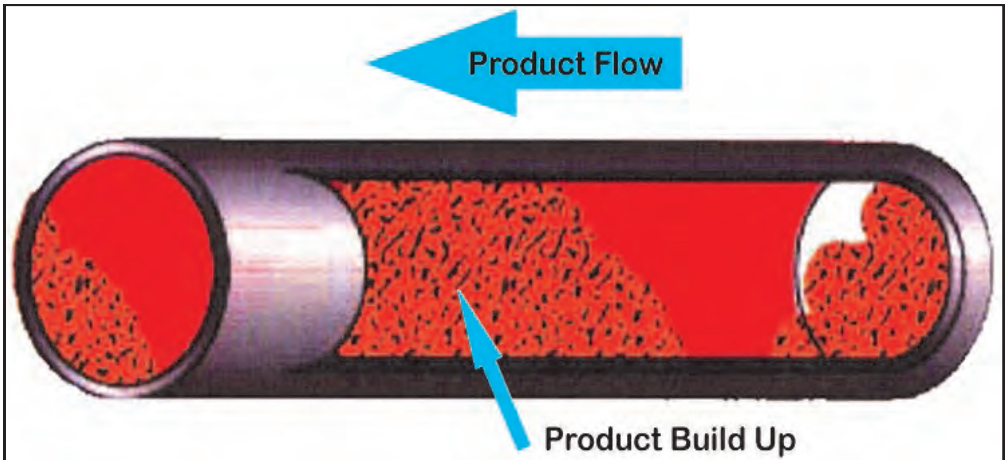

Figure 6. Product Flow and Build Up
1. Vertical positioning of discharge hose results in smoother product flow. **Product tends to "settle" in portions of hose which runs horizontally** (see Figure 6). This accumulation of product will restrict product flow, will increase unloading time, and may eventually clog the line.